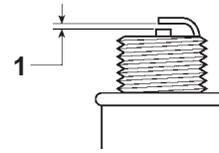

Figure 19
4. Set the gap on the new plug to 0.020 in. (0.50 mm) (Fig. 19).